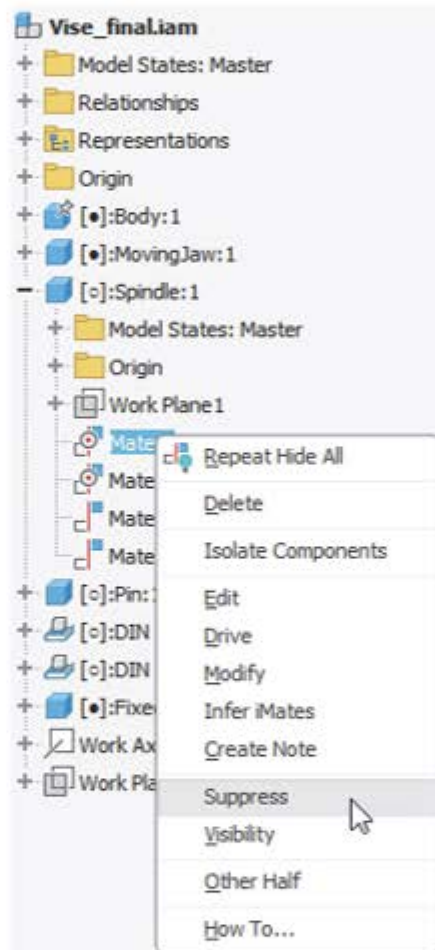

Figure 18–25
4. Which of the following statements is true regarding suppressing constraints, as shown in Figure 18–25?